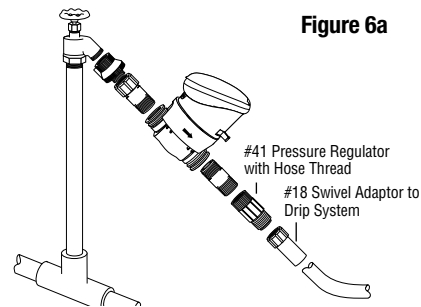

Figure 6a
4. After installation of the controller, if you use a drip system, first connect the pressure regulator with hose thread DIG Model #4 to lower the incoming pressure to your drip system and then the swivel adaptor DIG Model #18 and then the drip line. See Figures 6a and 6b.